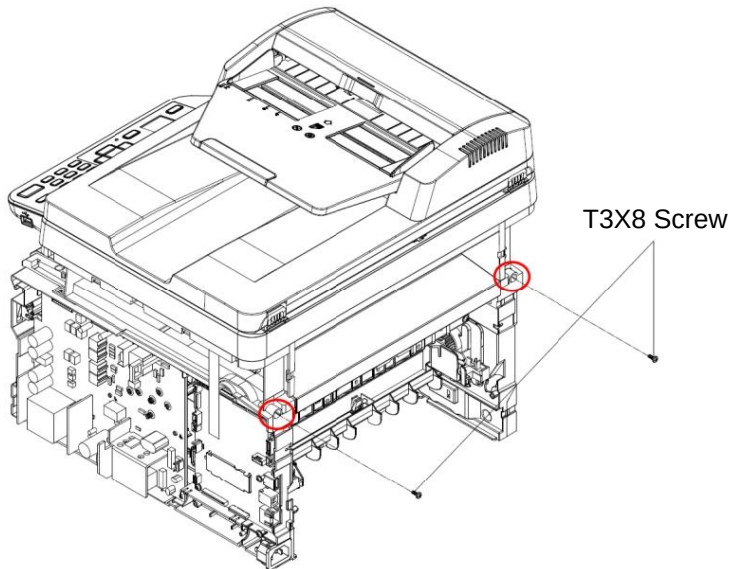
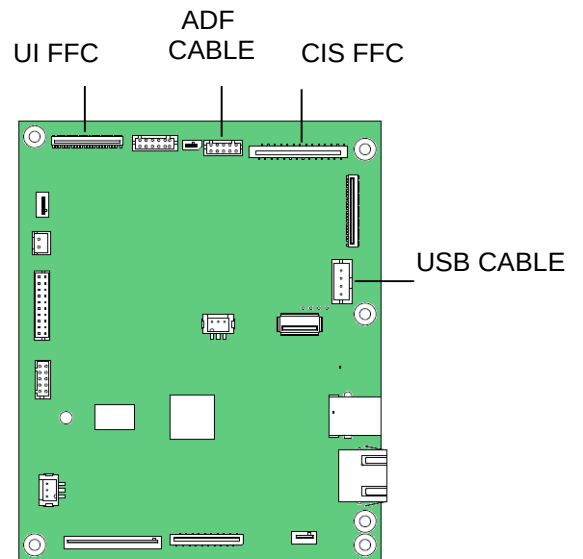

Fig. 1
Fig. 2
- 2) (Fig. 1) Pull down the ASSY_REAR_PATH to remove it.
- 2) (Fig.1) Press down the FUSER_PATH to remove it.
2) Fig. 1: Remove two T3X8 screws, Fig. 2 Disconnect two FFC cables and two cables, Fig. 3: Push 4 slots to detach the ADF_FB Scanner.